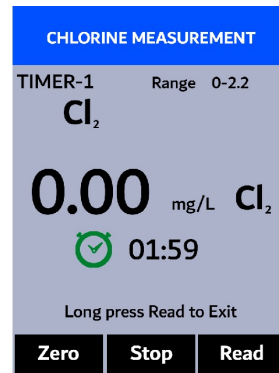

Figure 10.
8. The SP-710 will continuously display the free or total chlorine concentration as the timer counts down (Figure 10). If the real-time readings remain steady, press **Stop** (**>**) to stop measurement timer early or wait for the 2-minute timer to end.